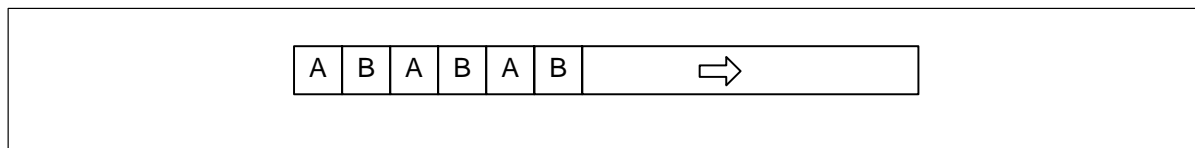

Figure 25. Odd-Even Pixels
One channel (A) carries only even pixels and the other channel (B) carries only odd pixels. Data is presented simultaneously on both channels. The pixels are “interleaved” in the original. Figure 25 shows where the data appears in a line from the original image. PC-CamLink can support this format for pixel depths from 8-bits up to 12-bits. The IFC Software Library calls this “Two Channel Interleaved” or LNK_2CHAN_INTERLEAVED.